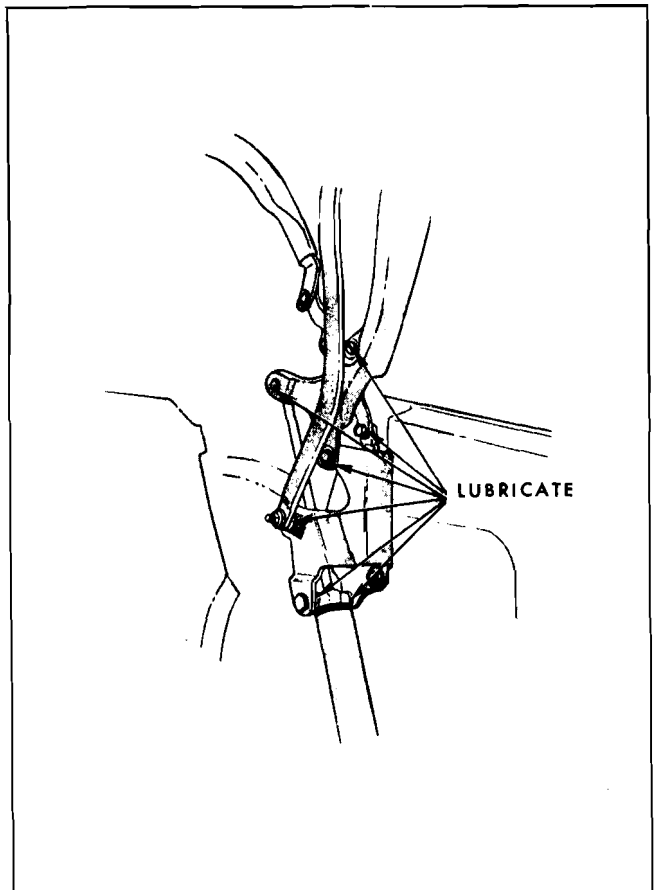
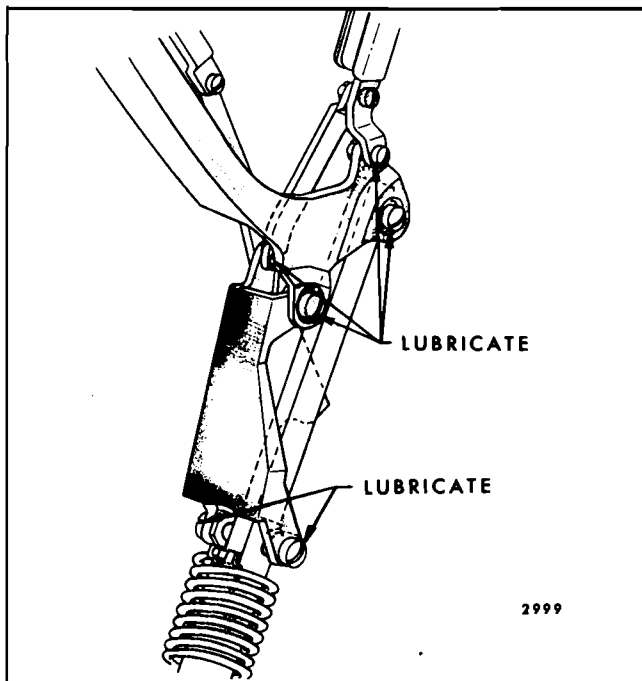
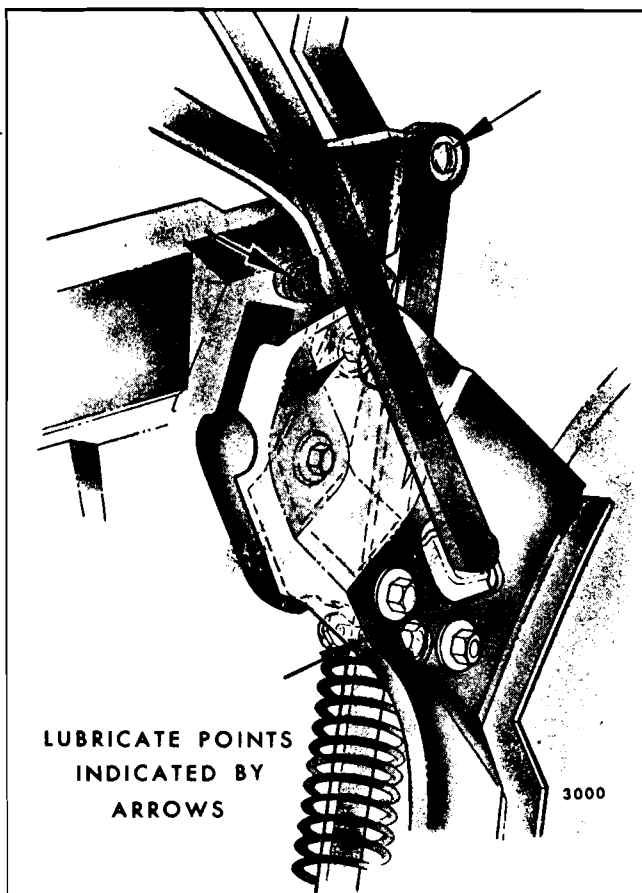

Fig. 2-16—"B" Convertible Hinge Lubrication
Fig. 2-17—"A" Convertible Hinge Lubrication
Fig. 2-18—"F" Convertible Hinge Lubrication
2. The friction surfaces lubricated should include all washers, bushings, and other contact surfaces at the points indicated by the arrows (Figure 2-16, Figure 2-17, and Figure 2-18).